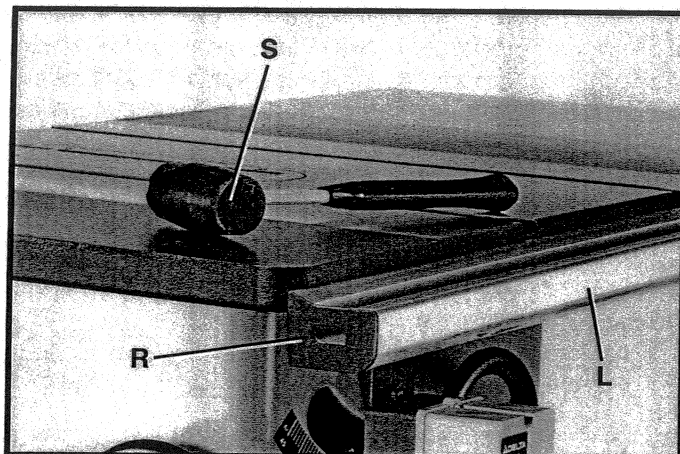

Fig. 26
10. Insert end cap (R) Fig. 26, into each end of front guide rail (L). Using a block of wood and a hammer or rubber mallet (S), gently tap the ends of the caps (R) until they are completely seated into both ends of the guide rails. **IMPORTANT:** To avoid damage to the ends of the guide rails, never use a hammer directly against the ends of guide rail (L).